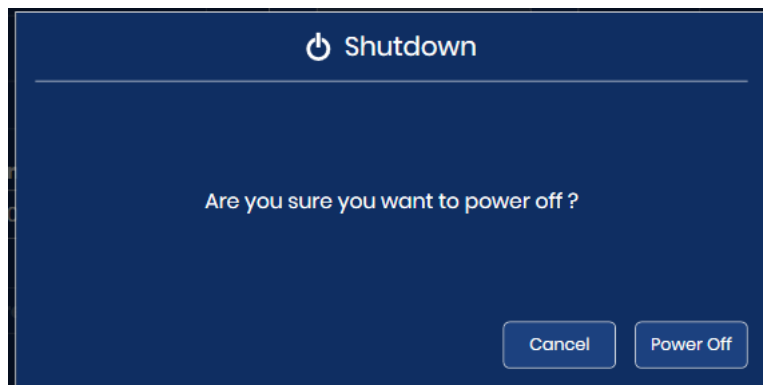

Figure 4-27 Confirm Shutdown
4. Select **Power Off** on the confirmation screen to continue with shutdown. (See Figure 4-27).